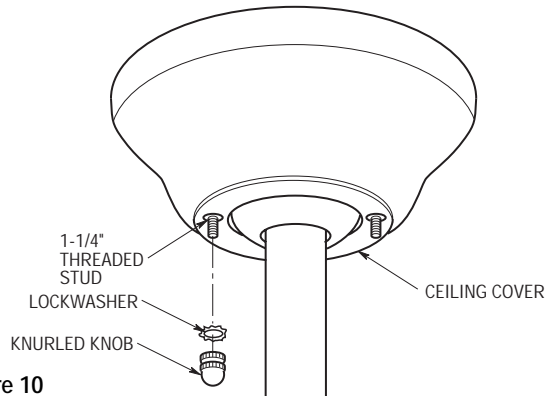

Figure 10
3. Screw the two 1-1/4" threaded studs (supplied) into the tapped holes in the hanger bracket (Figure 10).
4. Lift the ceiling cover up to the threaded studs and turn until studs protrude through the holes in the ceiling cover (Figure 10).
5. Secure the ceiling cover in place by sliding lockwashers (supplied) over the threaded studs and installing the two knurled knobs (supplied). (Figure 10.) Tighten the knurled knobs securely until the ceiling cover fits snugly against the ceiling and the hole in the ceiling cover is clear of the downrod. Your fan is now wired to be turned on and off from the fan switch.